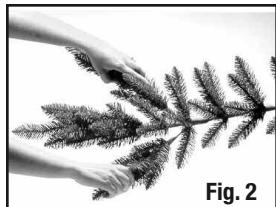

Fig. 2
2. Each branch tip must be shaped to its proper position to give the tree a natural look. This is done by gently grasping the left and right wing tips and spreading them out away from the center tip (Figure 2).
4. Carefully insert new bulb into socket and push down Bulb Lock until it snaps into place (Figure 2).